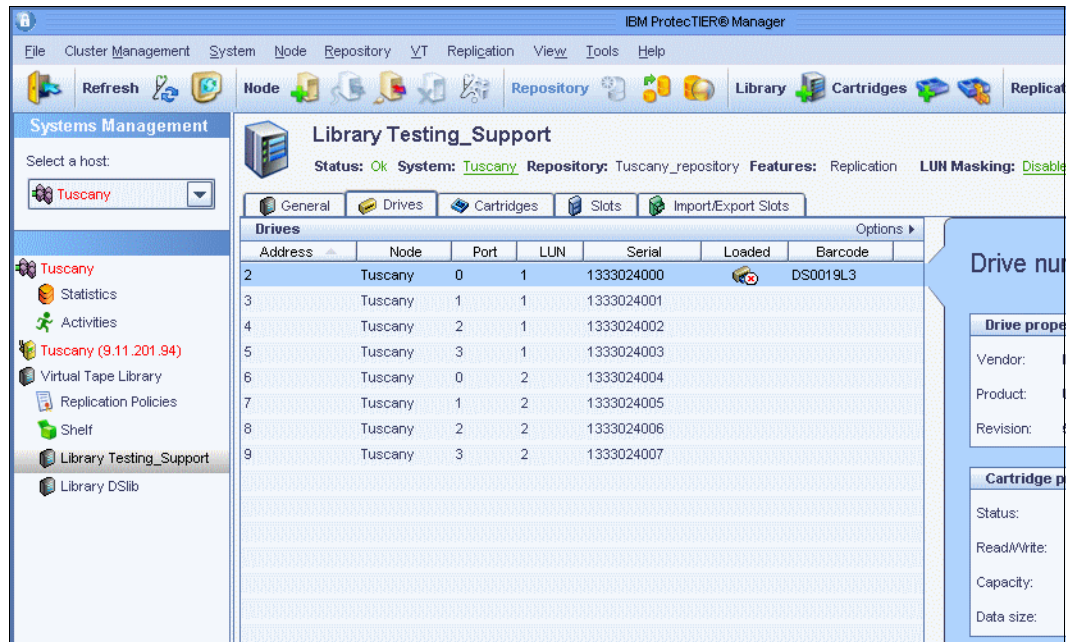

Figure 10-114 Unloaded cartridge still in the drive position
- The unloaded cartridge is still in the drive. You must relocate it (Figure 10-114).